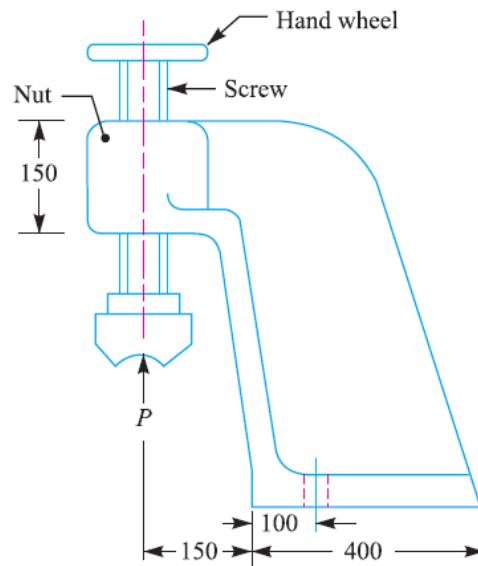

Figure 1
- Q7.** The screw of a shaft straightener exerts a load of 30 kN as shown in Fig. 1. The screw is square threaded of outside diameter 75 mm and 6 mm pitch. Determine: